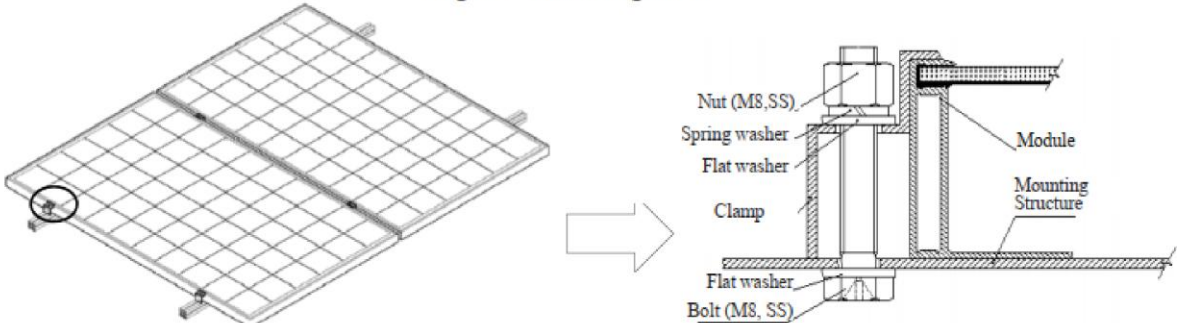

Figure 4 Mounting clamps
- Clamping system: use proper clamp, and fix the module with the installation support, as shown in Fig 4.
4. Secure the module in each fixing location with an M6 bolt, two flat washers, a spring washer and nut as shown in Figure 4, torque: 9~12 N.m